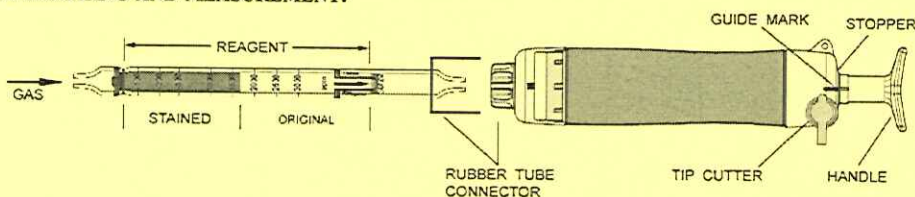

Fig.1
- ② Insert the detector tube into the aspirating pump securely as shown in Fig.1. (Arrow mark shall point to the pump.)
- ③ Align the guide marks on the shaft and stopper of the aspirating pump.
- ④ Pull the pump handle at a full stroke until it locks and wait for 1.5 minutes or until the completion of sampling is confirmed with the flow indicator of the pump. (See descriptions about the flow indicator in the instruction manual of the pump.)
- ⑤ On completion of sampling, read the scale at the maximum point of the stained layer.